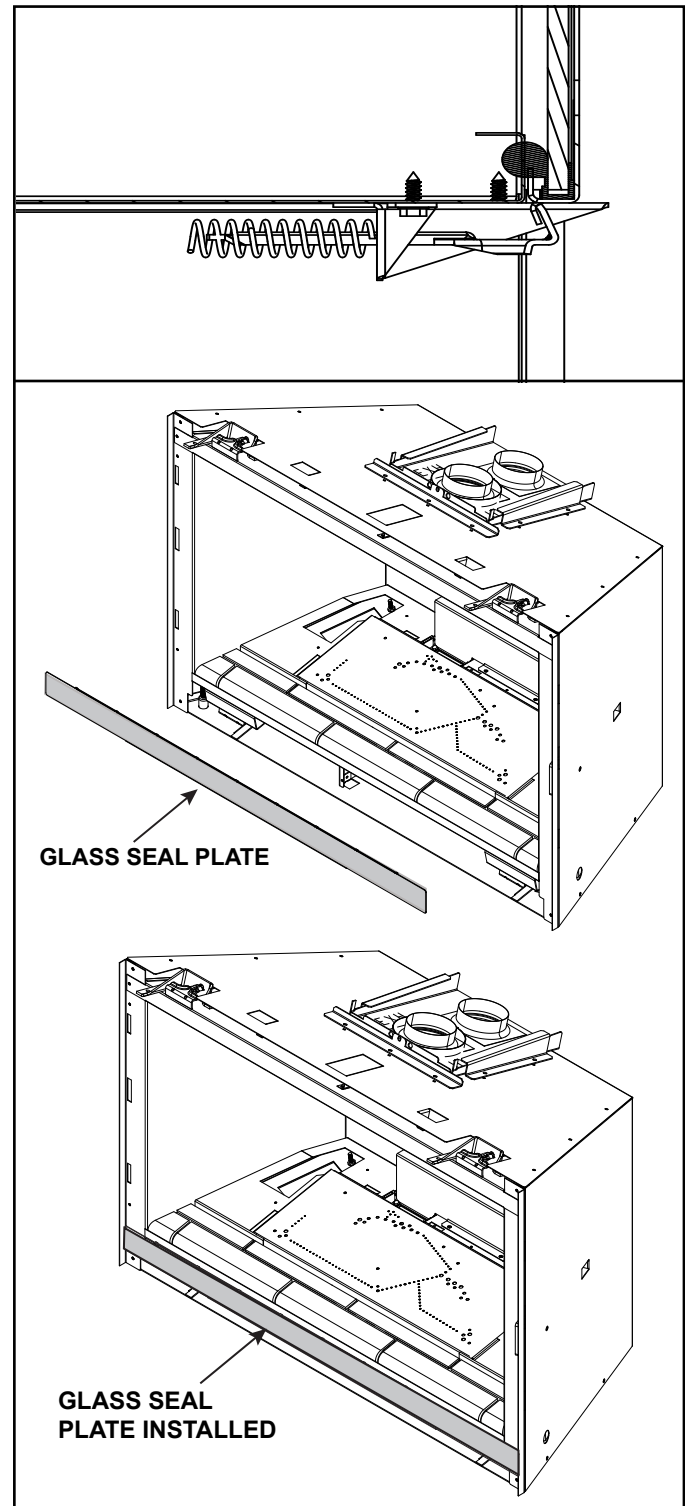

Figure 9.2 Glass Seal Plate
- The glass assembly fastens to the fireplace in four places. Four of the fastening mechanisms are spring-loaded glass latches. An example of the glass latch is shown in Figure 9.2.